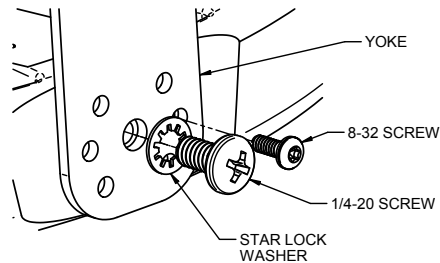

Figure 2
2. Secure Yoke to Housing with (2) ¼-20 screws and (2) star washers. (See Figure 2)
3. Prevent rotation of the Yoke with (2) 8-32 screws. (See Figure 2)